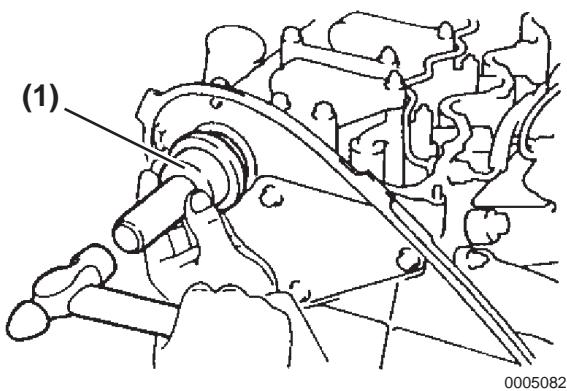

Figure 5-55
4. Using a suitable tool (**Figure 5-55, (1)**) tap in a new oil seal until its surface is level with the end surface of oil seal retainer.